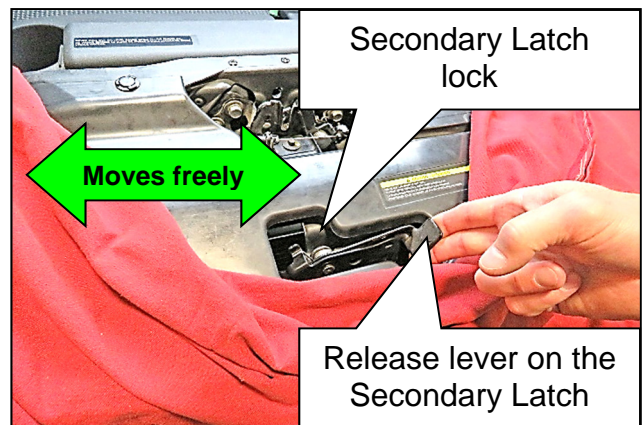

Figure 2
3. Move/cycle the release lever on the Secondary Latch five (5) times (Figure 2). When the release lever is released, does the Secondary Latch lock snap back to the closed position quickly without sticking?